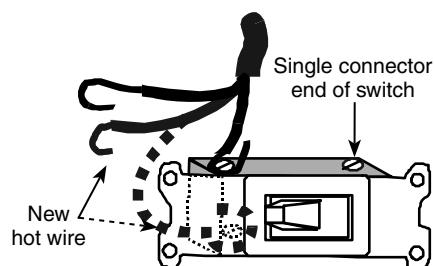

Figure 8-18
13. Connect that wire to the second contact on the double contact end of the switch, as shown in Figure 8-18.